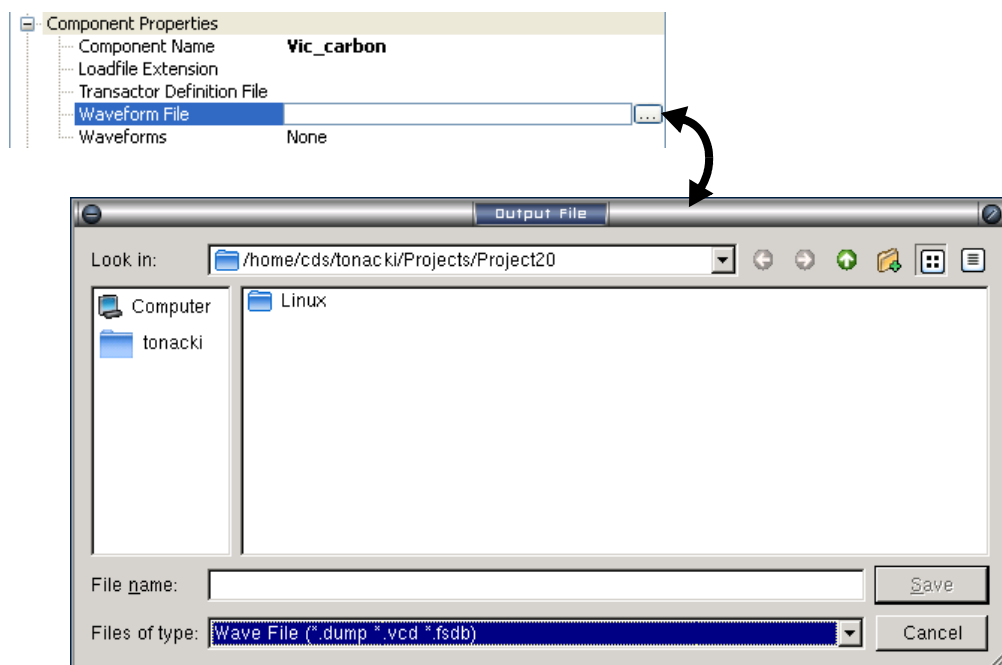

Figure 5-5 Enable Waveforms in SoC Designer Plus Component
1. In the *Properties* view, under the *Component Properties* section, click the **Browse** button in the *Waveform File* field to display the *Output File* dialog (Figure 5-5).